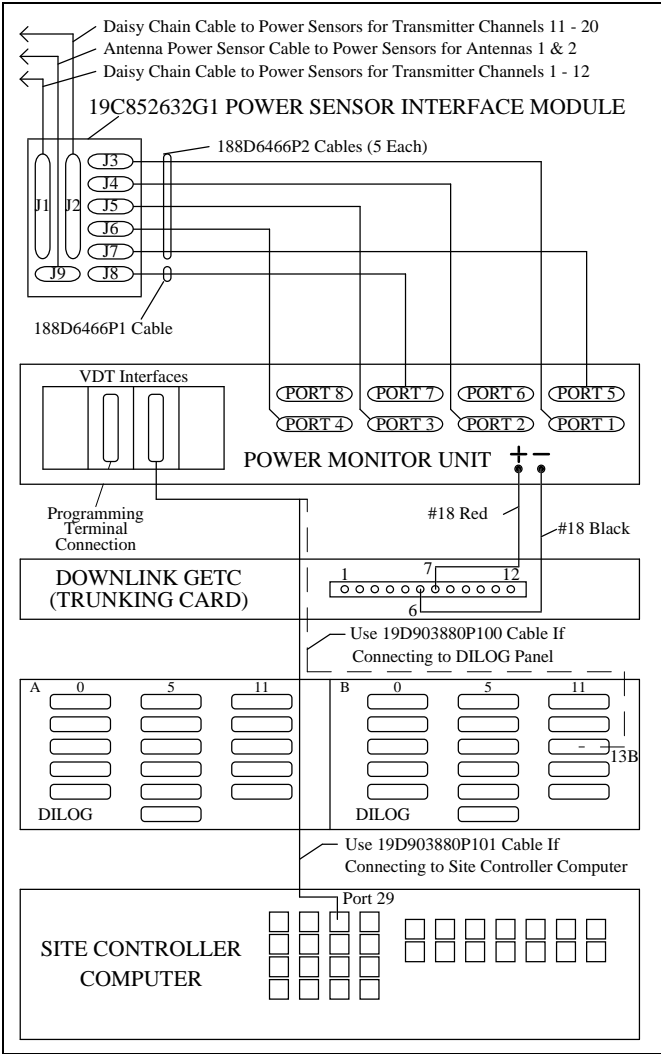

Figure 10 - Connections for Addition from No PMU
17. Double check the installation using the interconnection diagram shown in Figure 10.